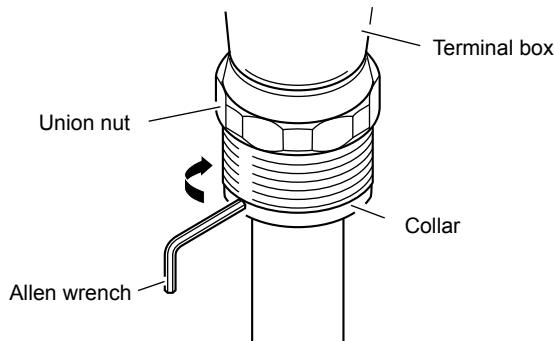

Figure 5.4 How to Remove Electrode Assembly
- (1) Stop the supply of power to the converter. How to disassemble or assemble the conductivity detector, refer to 5.1.1 Sensor Cleaning.
- (2) Disconnecting the electrode assembly from the dedicated cable
The electrode assembly of the SC210G low/medium-range conductivity detector is provided with a lead wire, which is connected to the dedicated cable through the terminal box. If the SC210G detector is used, remove the lead wires (4) of the electrode assembly connected to the terminal box. Separate the terminal box from the electrode assembly. The electrode assembly is fixed into the terminal box. Insert an Allen wrench into the two holes ($\varnothing 3.2$ mm) on the collar in the neighbourhood of the union nut and turn it counterclockwise to remove it (see Figure 5.4).